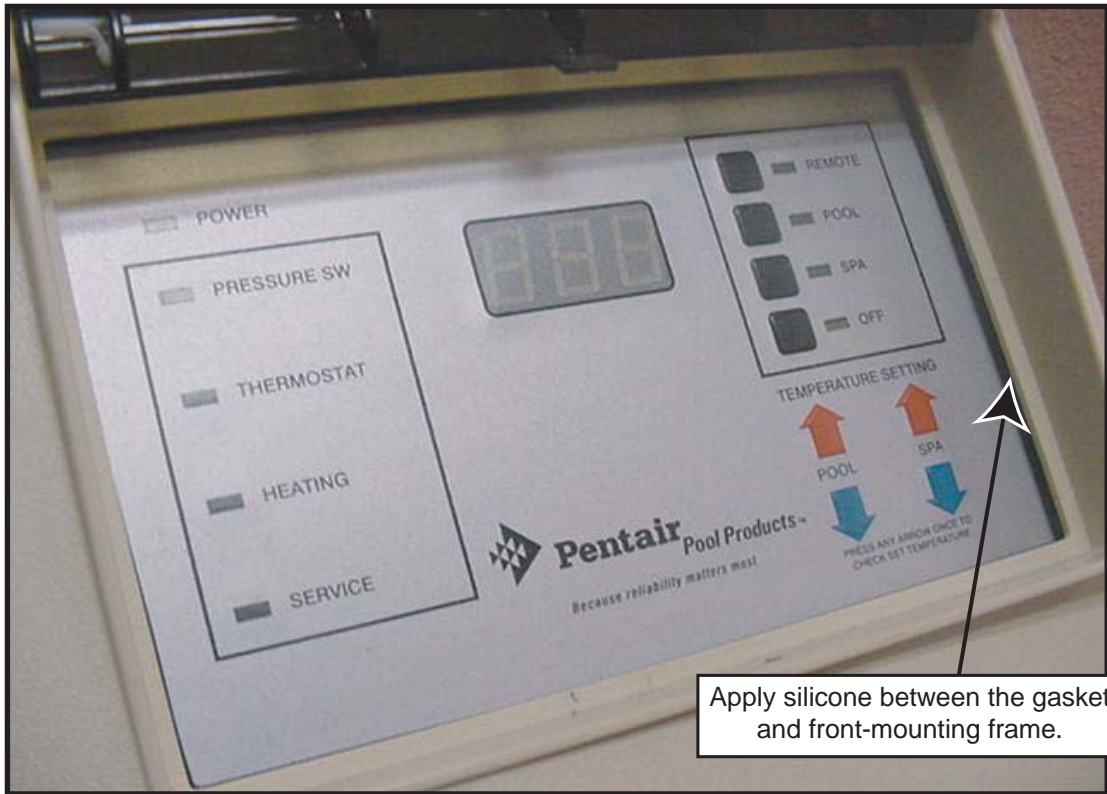

Figure 2.
7. Install the mounting plate gasket before putting DDTC board into the place, see Figure 1 and Figure 2.